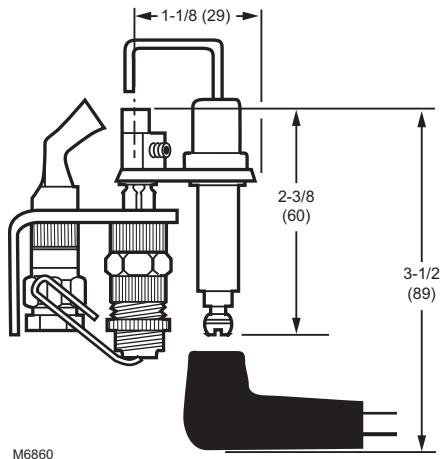

Fig. 5. 392431 Igniter-sensor mounting dimensions in inches. (mm).
**Dimensions:** See Fig. 5 on page 6.